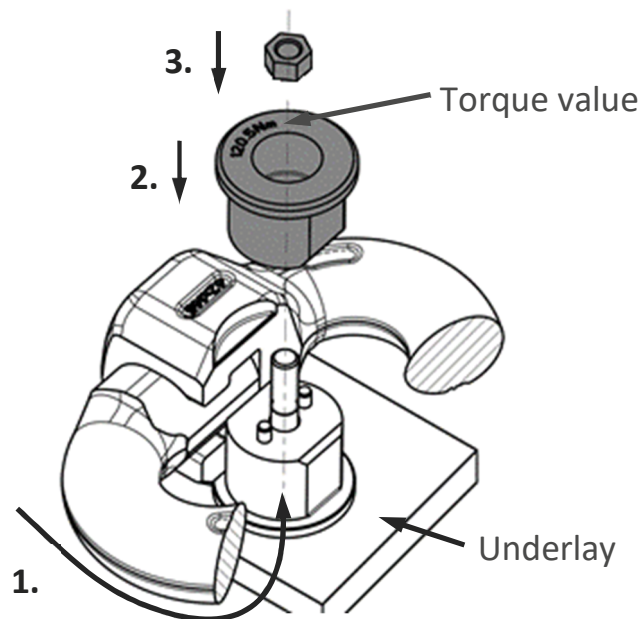

Figure 3: Lock assembly
- Move the lower lock half with the preassembled screw from the bottom into the connector (step 1, Figure 3) and position it on a pad or flat surface. The screw is glued in place to prevent moving. The following assembly is made simpler if the two dowel pins align with the chain center line.
- Place the upper lock half (Step 2, Figure 3) centrally above the lower lock half. Take care, that the holes to accept the dowel pins align correctly.